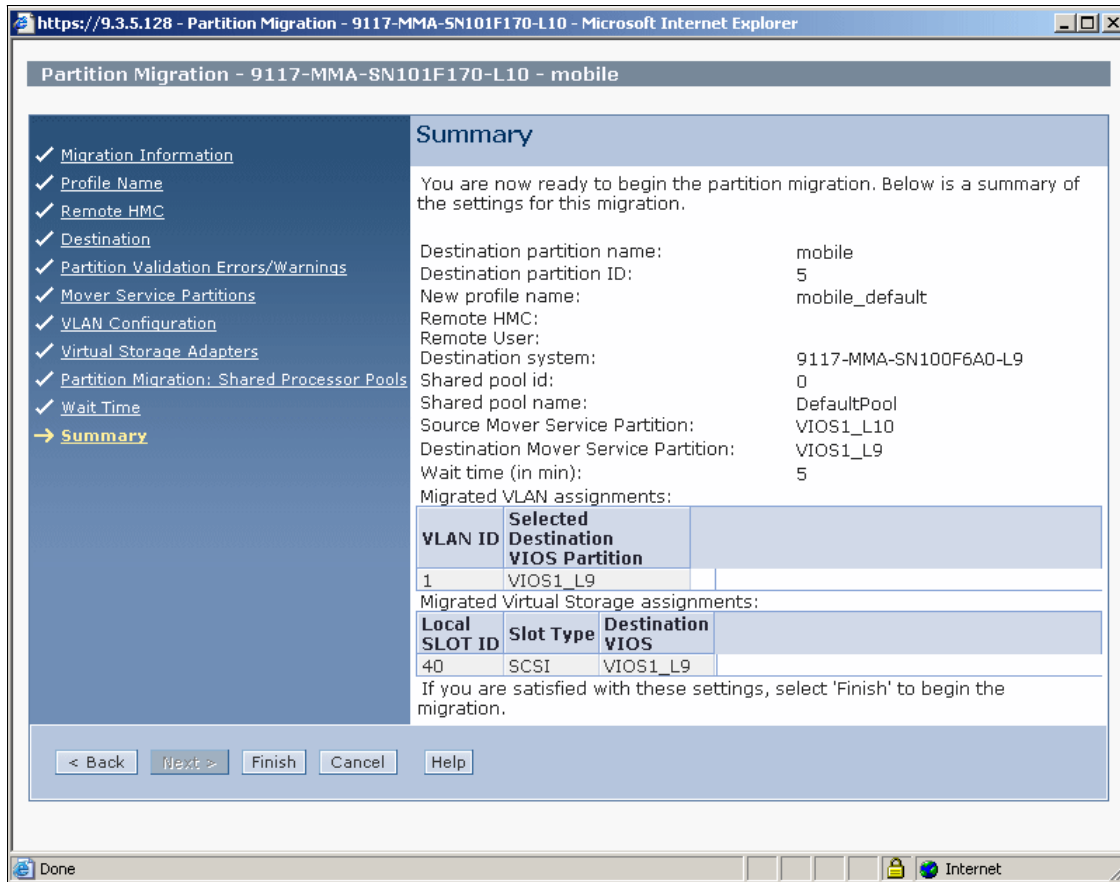

Figure 14-19 Partition Migration Summary window
14. Check the settings that you have specified for this migration on the Summary window, then click **Finish** to begin the migration as shown in Figure 14-19.